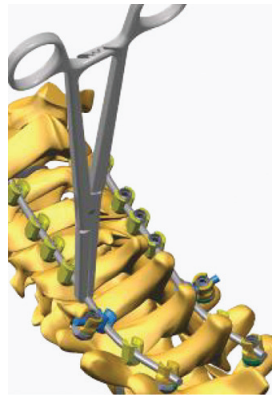

Figure 29
- Grasp the rod with the rod holder and seat it within the screws or hook tulips. (Figure 29).